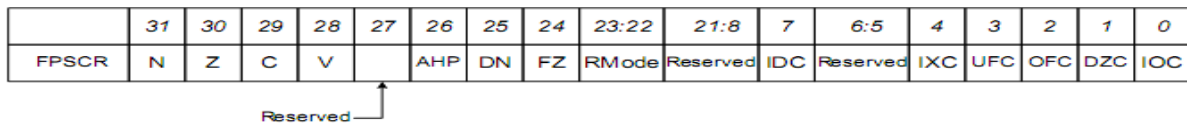

Figure 15: Bit field in FPSCR
- The FPSCR contains various bit fields as shown in figure 15 for a couple of reasons: